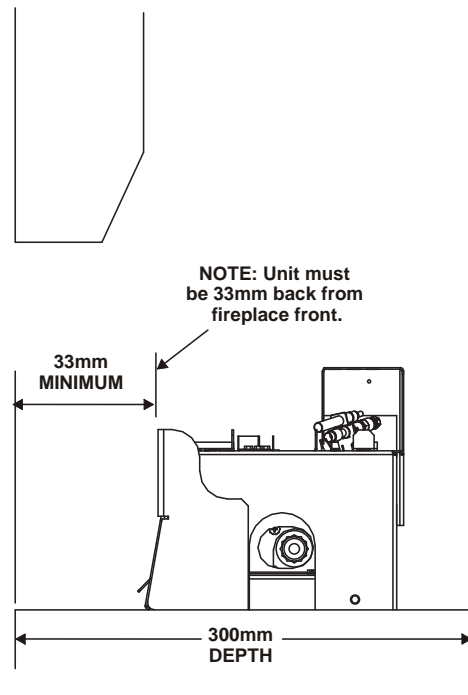

FIGURE 1
STEP 2: Ensure that tabs on the rear and side surround are bent as shown in Figure 1. Carefully remove logs from carton and place as shown.